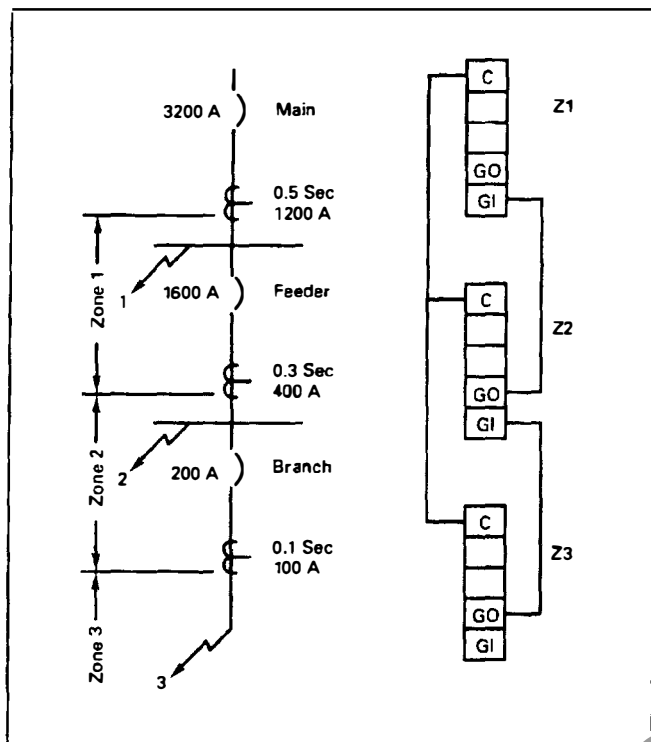

Fig. A.1 Typical Zone Interlocking (Ground Fault Protection)
**Assume** a ground fault of 2000 Amperes occurs and refer to Fig A.1.